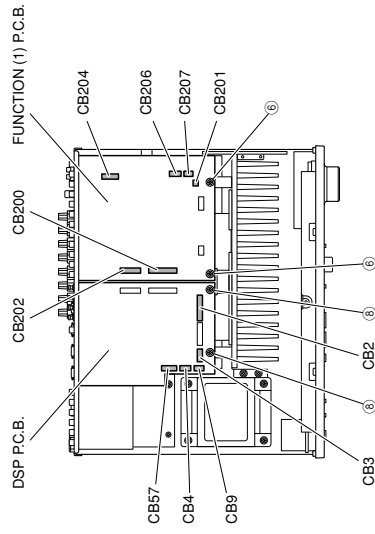

Fig. 2
- a. Remove 2 screws (⑥). (Fig. 2)
- c. Remove CB2-4, CB9 and CB57. (Fig. 2)
- d. Remove the DSP P.C.B.. (Fig. 2)